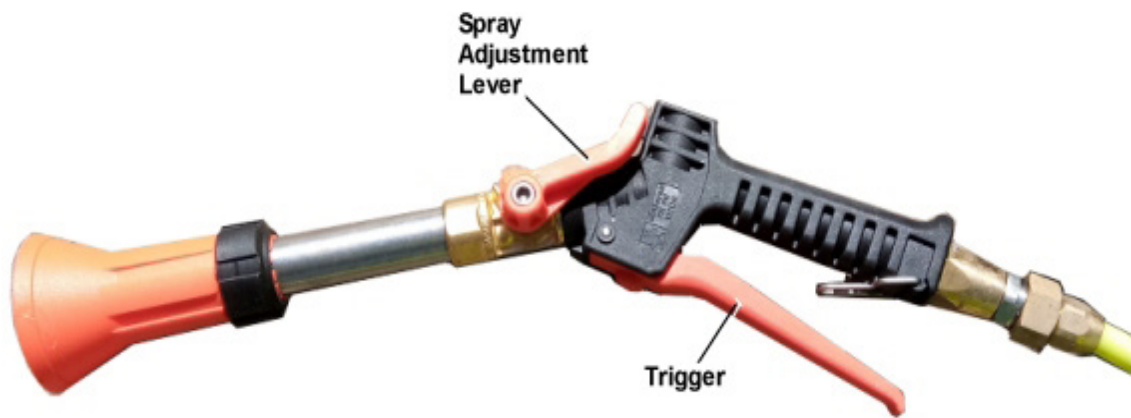

Figure 11 – Spray Gun (typical)
6. Aim the hose's spray gun in the required direction and squeeze the trigger. Adjust the spray pattern by rotating the nozzle tip or operating the lever on the spray gun handle (depending on the option selected), refer to Figure 11.